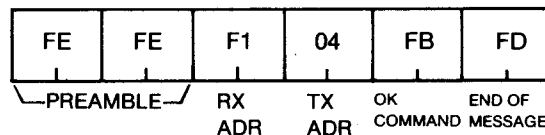

Fig. 28
(2) If the controller sends a packet as shown in Fig. 27, the IC-735 returns the packet shown in Fig. 28 after
(3) If the receiving IC-735 is scanning, it changes mode and continues scanning, but no acknowledgement is sent.